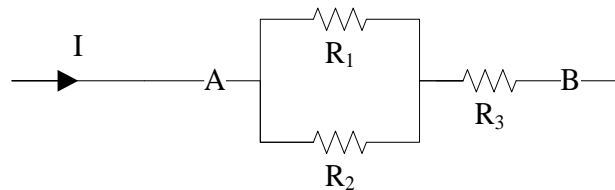

Figure 3. (series-parallel)
The series-parallel arrangement combines aspects of both series and parallel arrangements. An example is shown in Fig. 3. Here  $R_1$  and  $R_2$  are in parallel. Now  $R_1$  and  $R_2$  can be viewed as a single effective resistance  $R_p$  (Eq. (5)). The resistances  $R_p$  and  $R_3$  are seen to be in series. Using the series resistance formula Eq. (2) we have for the overall effective resistance  $R_e$  (i.e., between A and B of Fig. 3) of this series-parallel combination: